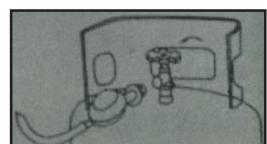

Fig. 3
3. Open the angle valve of the gas bottle by rotating it counterclockwise. (Fig. 3)